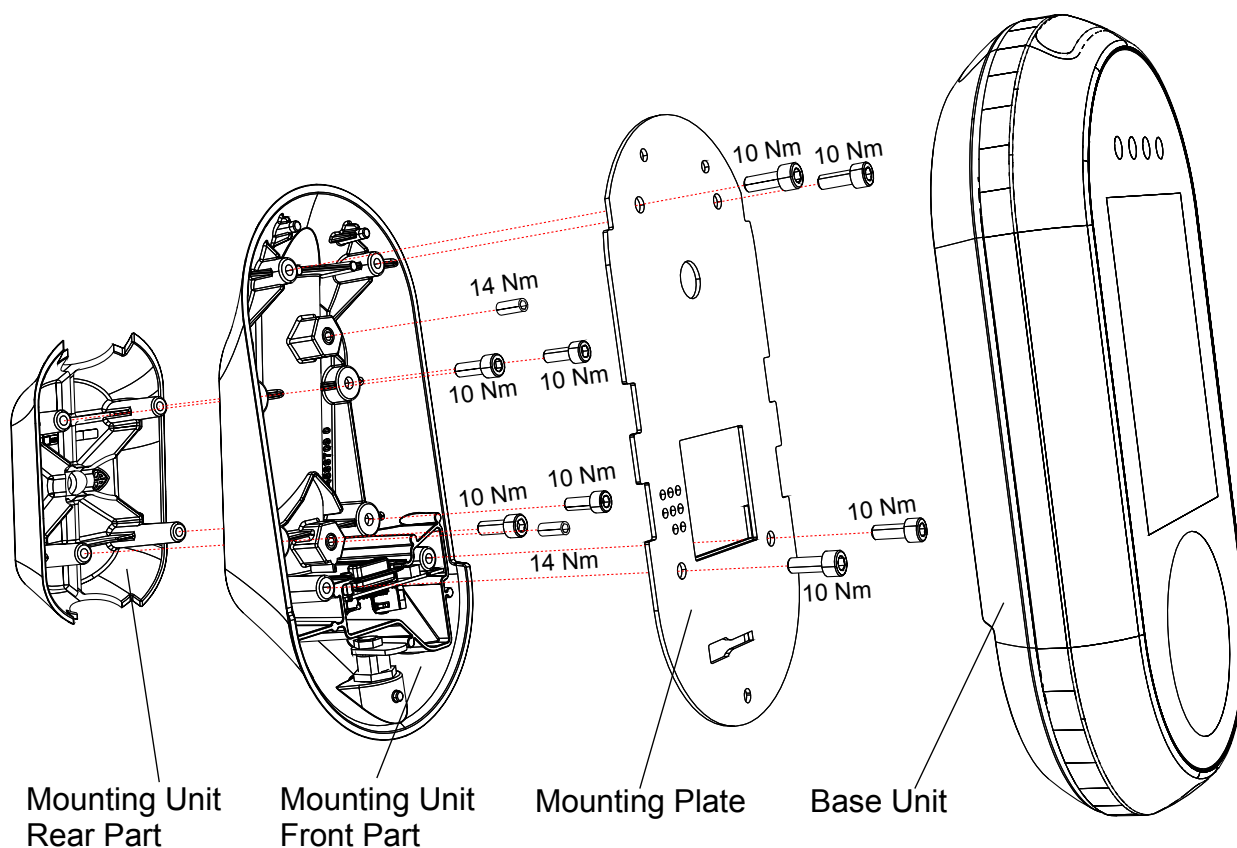

Figure 4-18 Module Removal - Mounting Unit
The drawing in **Figure 4-18** illustrates how remove the OV|41 mounting unit from the mounting bar.
- STEP 8:** Set the mounting unit rear part on the mounting unit front part and fix it with the four screws shown in **Figure 4-18**
- STEP 9:** Set the mounting plate on the mounting unit front part and fix it with the four screws shown in **Figure 4-18**